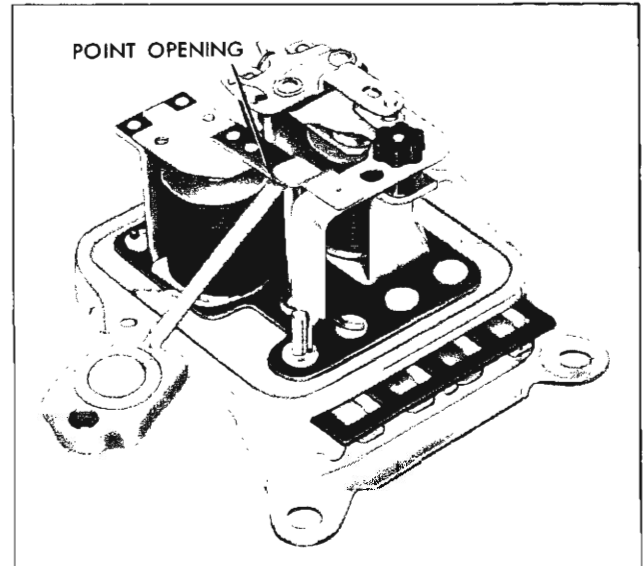

Fig. 34—Checking Field Relay Point Opening
1. **Point Opening:** The point opening is checked as illustrated in Figure 34. If adjustment is necessary, carefully bend the armature stop.